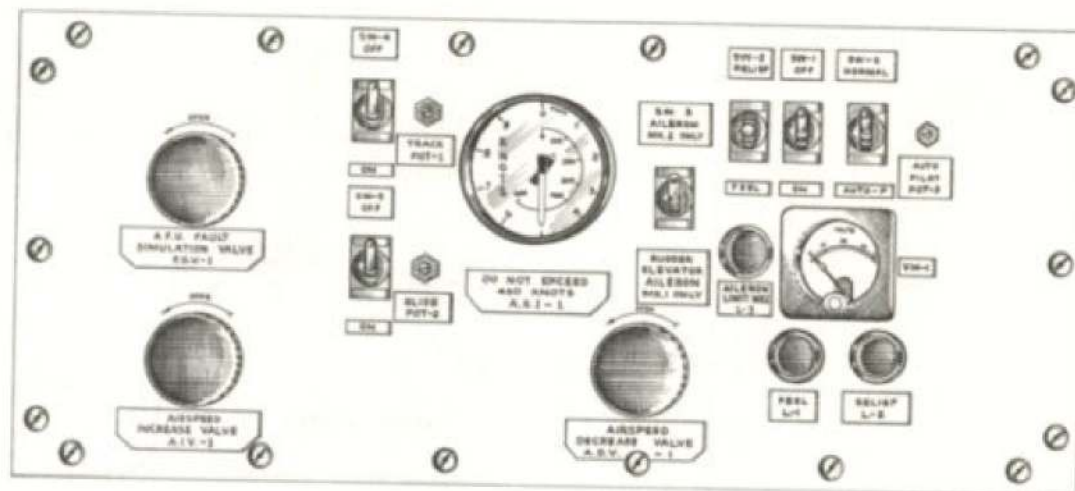

Fig.3. Control panel
12. The controls and indicators are mounted on the front panel as shown in fig. 3. The system components are housed within the console and for access to them the front and rear panels are detachable. Six plugs and two stub pipes mounted on the left hand panel are suitably identified for connection of the extension cables and pneumatic pipes whereby the